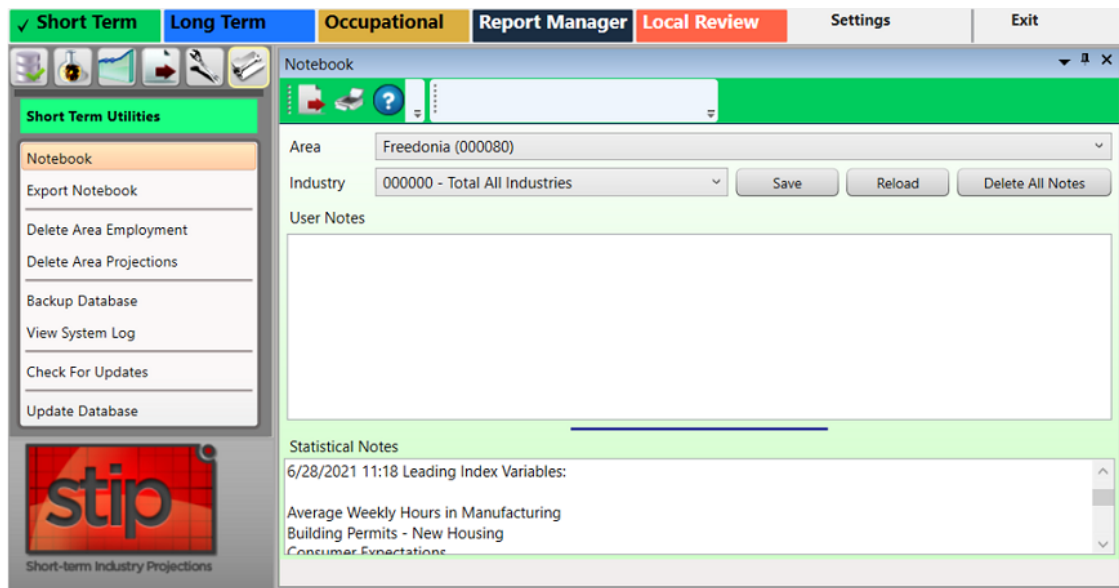

Figure 1: Notebook module
- ☞ View the Screen Controls for assistance in docking the module's window (as shown in Figure 1).